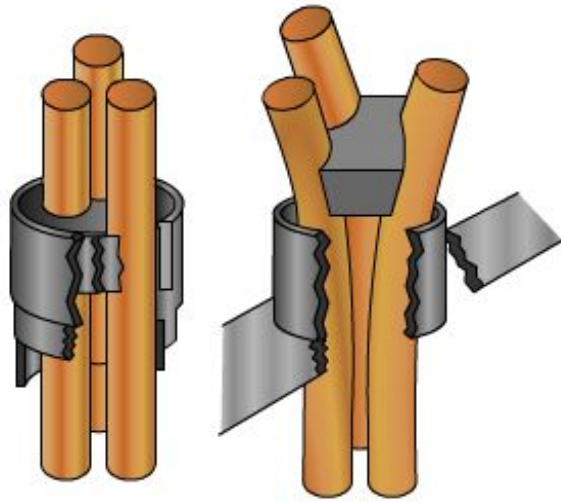

Figure 8-35 – Gable support screwed on the end of a conduit and the one piece plug type.
1. Approved clamping devices are constructed of, or use, insulated wedges inserted in the ends of the conduits (*Figure 8-35*). With cables having varnished-cambric insulation, clamping the conductor may also be necessary.